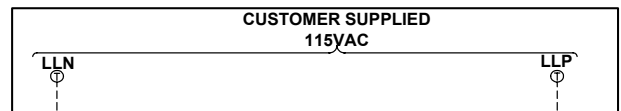

Figure 1-3
- The first circuit common to all drive types is an independent single phase supply for the cab lighting circuit. Usually 120 VAC for North America. This circuit should be a 15 amp fused circuit. [See Figure 1-3.]